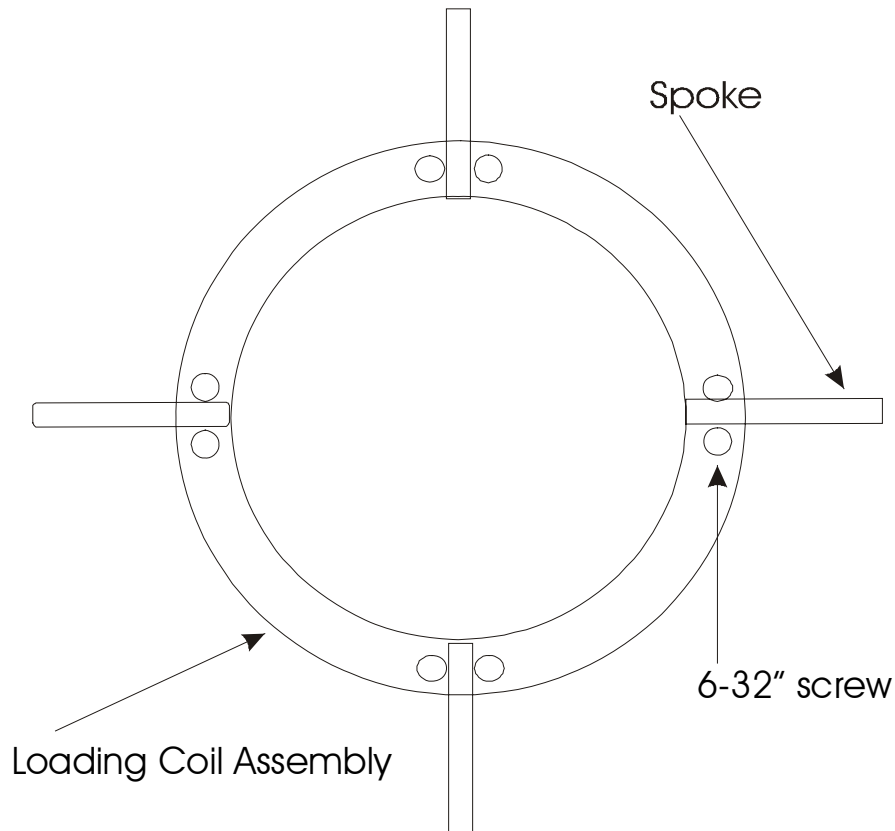
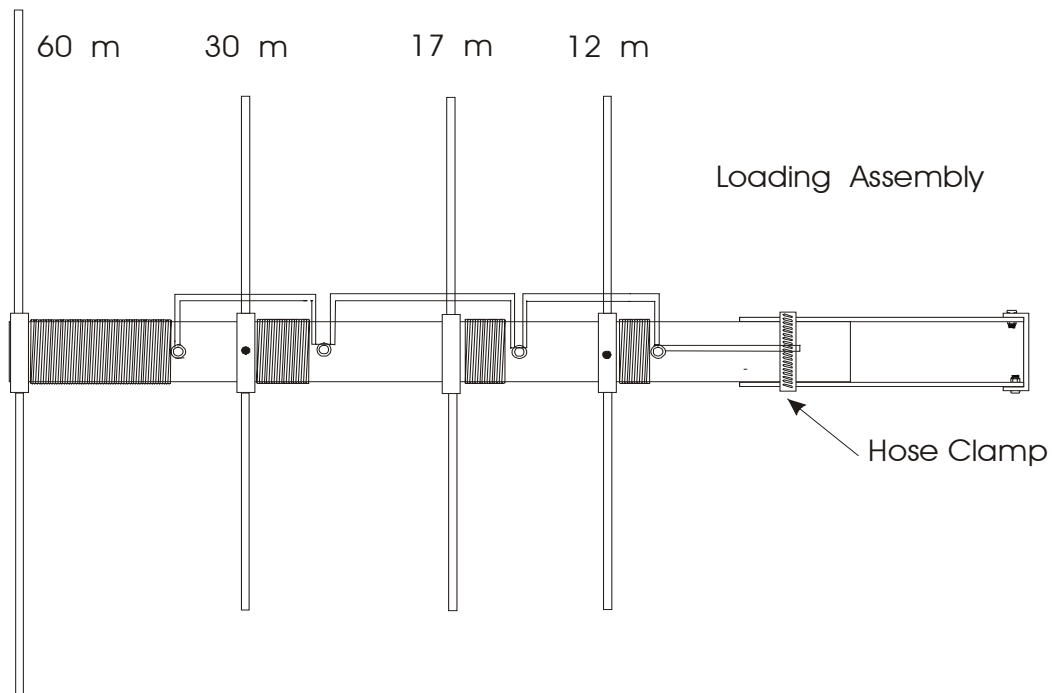

Figure 3
Figure 4
- [ ] 12. Install the short 6/32" screws in the rings of the loading coil assemblies and place a 6/32" nut on each screw. Place eight (8) of the 36" capacitance spokes into the eight holes on the top rings of the loading coil assembly (60M). Then, tighten the screws until the spokes are snug. Now you should be able to turn the coil assembly over and they should balance on the long spokes. See Figure 3 and Figure 4.
- [ ] **13.** Install four 36" capacitance spokes in the next sets of rings (30M). Again, tighten these spokes as was done in step 9. (See Figure 3 and Figure 4)
- [ ] **14.** Install four 21" capacitance spokes in the remaining two sets of rings (17/12M). Again, tighten these spokes as was done in step 9. (See Figure 3 and Figure 4)
- [ ] **15.** Slide a hose clamp over the top radiator. Mount the top coil assembly to the antenna by inserting the fiberglass insulator in the top radiator. Tighten the metal strap from the coil assembly under the hose clamp. See Figure 4.